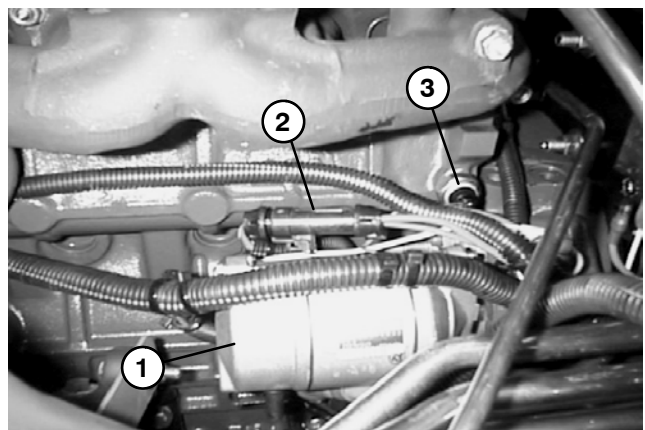

Figure 16
F. Fusible link harness connector and low oil pressure switch located on alternator side of engine (near electric starter) (Fig. 16).
- F. Fusible link harness connector and low oil pressure switch located on alternator side of engine (near electric starter) (Fig. 16).